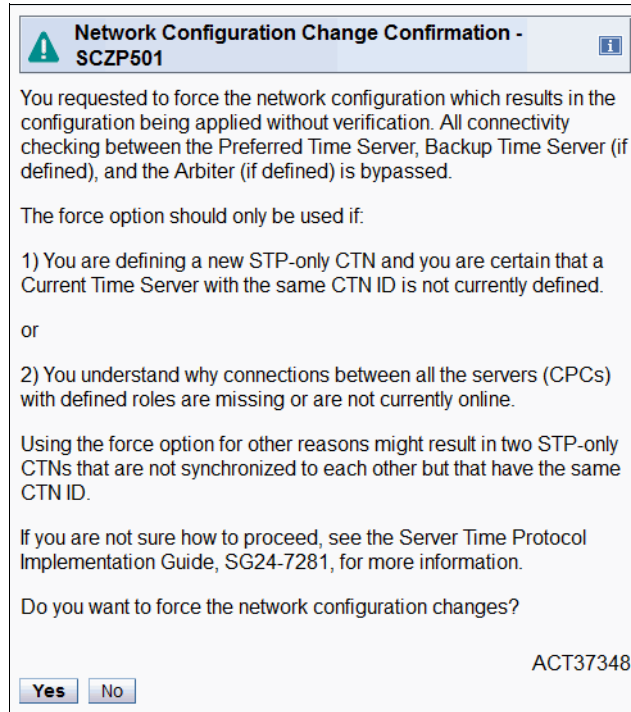

Figure 9-51 System (Sysplex) Time: Network Configuration Change Confirmation panel
3. Assignment of the PTS globally changes all servers with the same CTN ID to STP timing mode. This process is confirmed by ACT37348 message. Click **Yes** (Figure 9-51 on page 537).